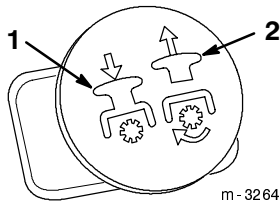

Figure 15
3. Pull the power take off (PTO) switch to ON (Fig. 15).